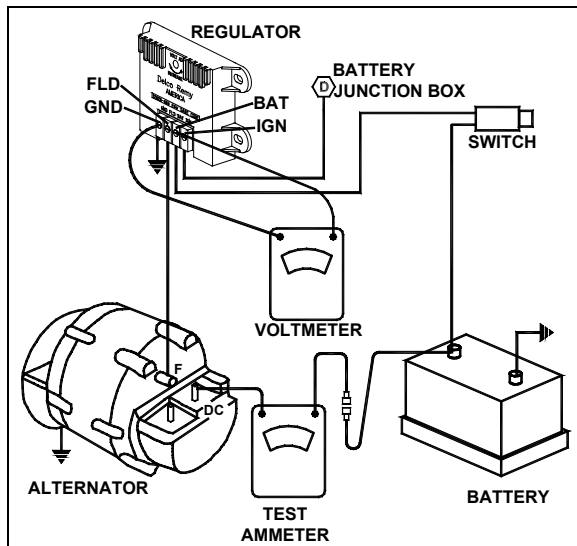

FIGURE 31: REGULATOR VOLTAGE TEST 06416
1. To check the voltage setting, connect a voltmeter across the "POS" and "NEG" terminals on the regulator, and an ammeter to the "C" terminal on the alternator. Refer to Figure 31.